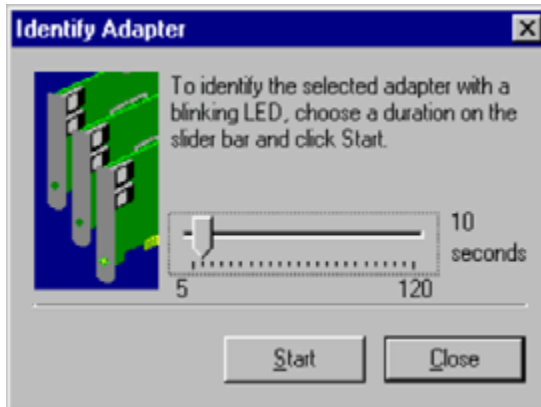

Fig. 3: Identify adapters
- Start test program (Fig. 3 / p. 19)